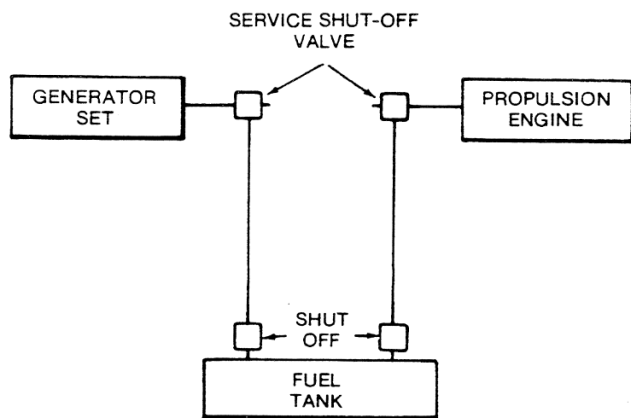

FIGURE 4. ABOVE TANK LEVEL INSTALLATION
Whenever possible, it is recommended that the fuel line be run at or above level of the tank top to a point close to the engine connection. See Figure 4. The line should be supported throughout its length with clips or straps spaced at no more than 14-inch (355 mm) intervals.
1. Keeping all parts of the fuel line (from the tank to the engine) above the tank top. See Figure 4.